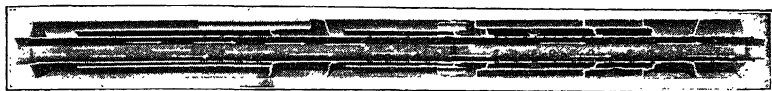

Fig. 10. Buick Resonance Muffler
**Buick Resonance Muffler.** The Buick muffler, Fig. 10, is a straight-through resonance type, consisting of a central tube open for the full length of the muffler, and having openings into resonance chambers. The resonance chambers function in the same manner as those used in the intake silencer and air cleaner. This type of construction results in greatly reduced back pressure and as the exhaust gases are not appreciably cooled in the muffler the corrosion from condensation and burning of the tubes is reduced to a minimum.